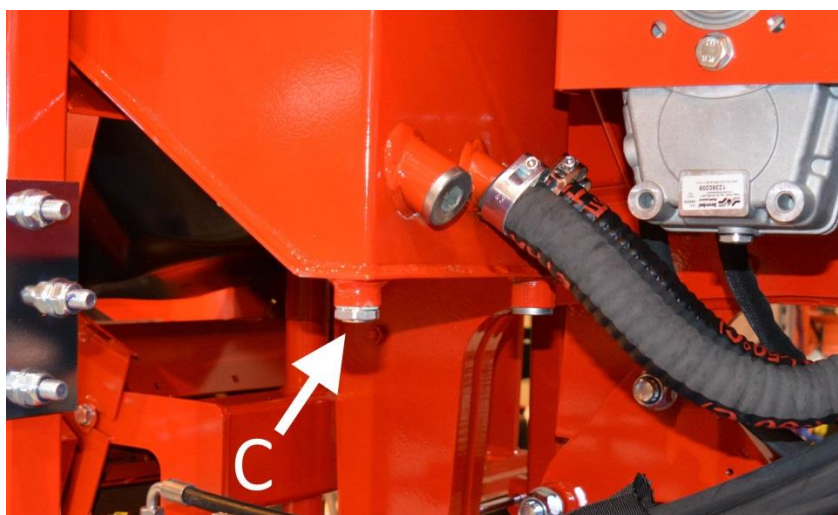

Figure 31.
4. Open drain plug C (Figure 31) and drain the old hydraulic oil into a suitable container.